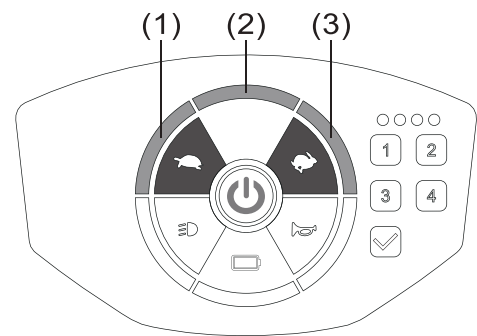

Figure 11
- There are 3 different speeds of adjustment fastest 3 > 2 > 1 slowest. (Figure 11)